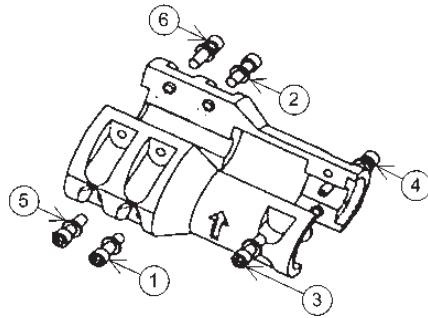

Figure 23: Coupling Torque Pattern
12. Very lightly tighten the remaining (4) socket head screws on the coupling. Tighten the coupling evenly; ensure that the coupling is symmetrical on both the pump and motor shafts. Do NOT torque the cap screws in this step.
13. Torque the socket head cap screws on the coupling. Refer to Figure 23 for the proper torque pattern. See the “Engineering Data” section on page 8 of this manual for the proper torque value.